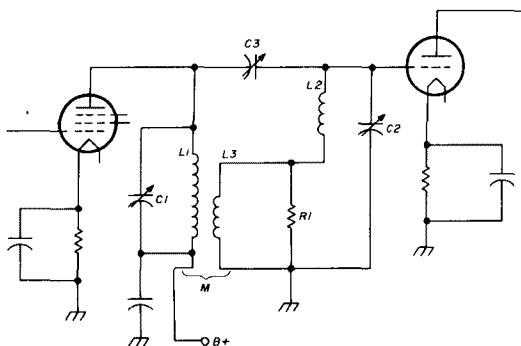

Fig. 13. Basic schematic of the infinite off-frequency rejection coupling system used on the DD-1.
**The off-frequency rejection system.** This circuit was described by McLaughlin and Miles9 a month before the DD-1 itself. The basic schematic is shown in fig. 13. To quote the author: